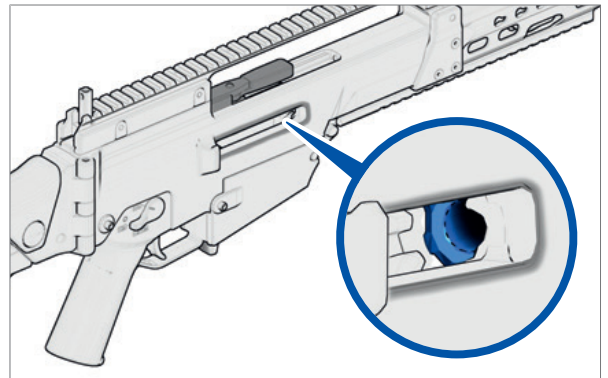

Fig. 14: Look into the chamber
4. Look into the chamber (*Fig. 14*). There must not be a cartridge in the chamber. If there is a cartridge in the chamber, then a fault is present. ▶ Faults: Causes and remedies.